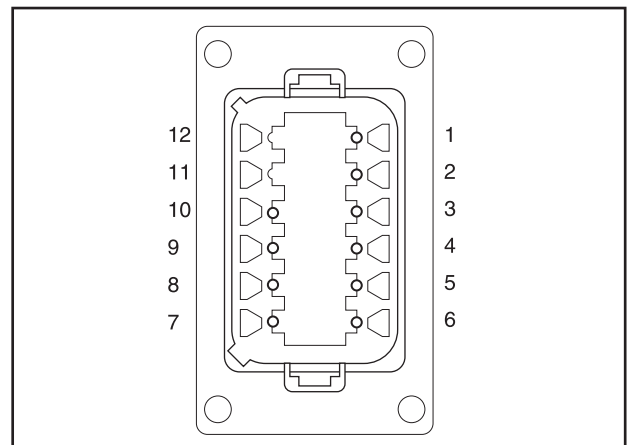

Figure 6. C2 Connector Pin Locations (Male Side)
33. Disconnect the C2 connector from the control panel. (C2 is the closest to the back panel). Refer to Figure 6 for pin locations.